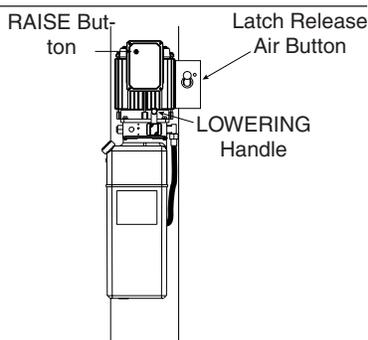

Fig. 2
5. **To Raise Lift:** Push the "RAISE" button on the power unit. Release button at desired height, Fig. 2.
10. Actuate the latch release air button on power unit to disengage all four locking latches, Fig. 2. Hold button in until lift has fully lowered.
11. Push the lowering handle on the power unit to lower lift, Fig. 2. Lowering speed can be controlled by the force applied to the lowering handle.